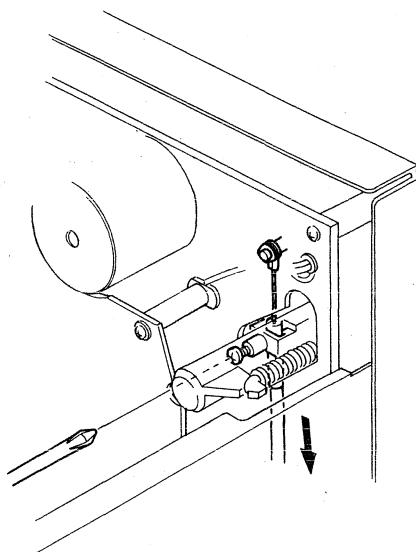

Fig. 5.17.2
- (2) With pushing the Eject Arm by hand, loosen the screw and then pull the Eject Wire in the direction of the arrow until it stops as shown in Fig. 5.17.2.
- (3) Tighten the screw, then apply a quantity of lock tight paint.